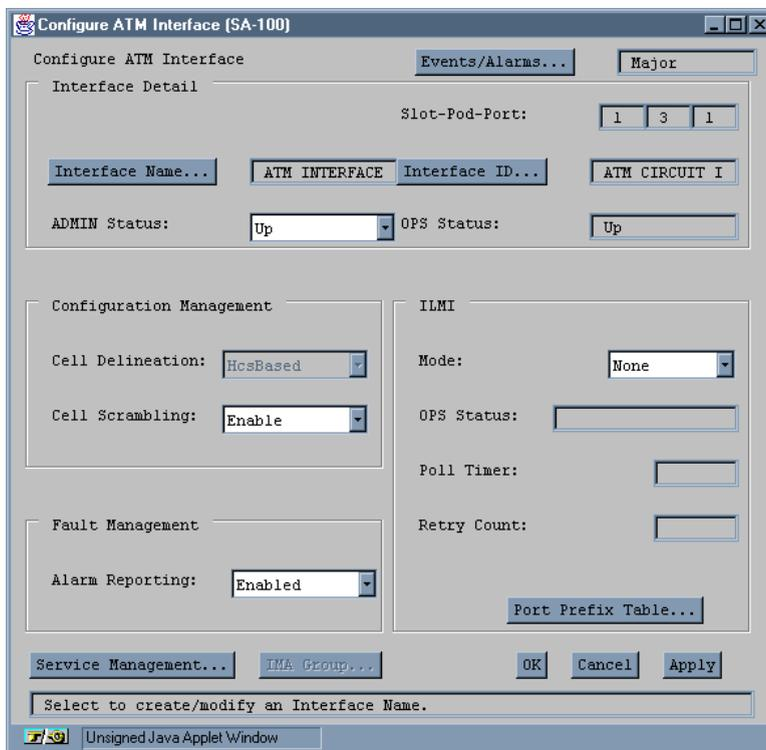

Figure 4-26. Configure ATM Interface Window
1. Choose the Next Logical Layer button in the specific Configure Port or Configure Path window. The Configure ATM Interface window appears (see Figure 4-26).